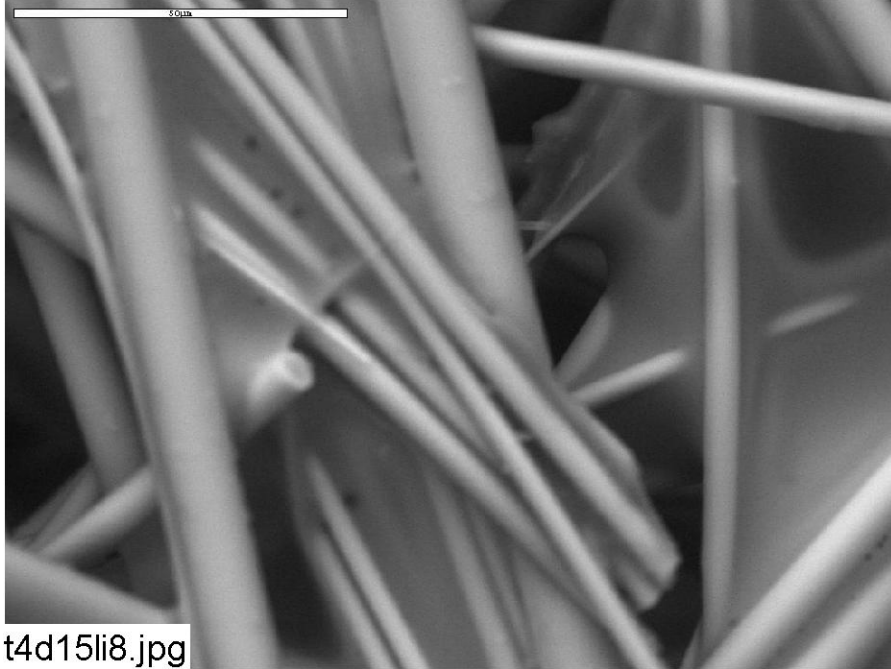

Figure B1-7. Environmental SEM image magnified 1000 times for a Test #4, Day-15 interior low-flow fiberglass sample. (t4d15li8.jpg)
- Figure B1-7. Environmental SEM image magnified 1000 times for a Test #4, Day-15 interior low-flow fiberglass sample. (t4d15li8.jpg) B1-7
| | t4d15li8 | 1000 × | ESEM image at higher magnification | Figure B1-7 |